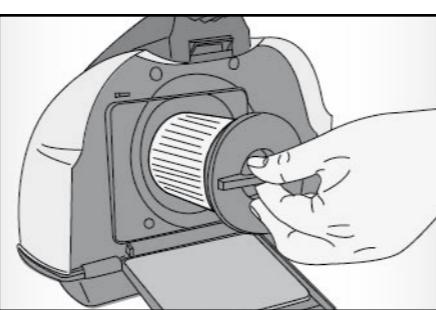

Fig. 8
- To clean the inside of the container (7), it is possible to remove the washable filter by turning it anticlockwise and pulling it outwards (Fig. 8).